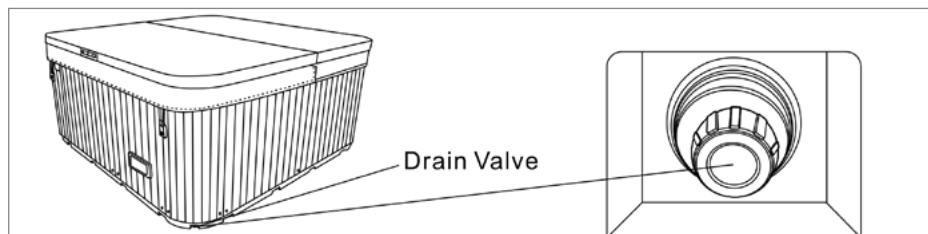
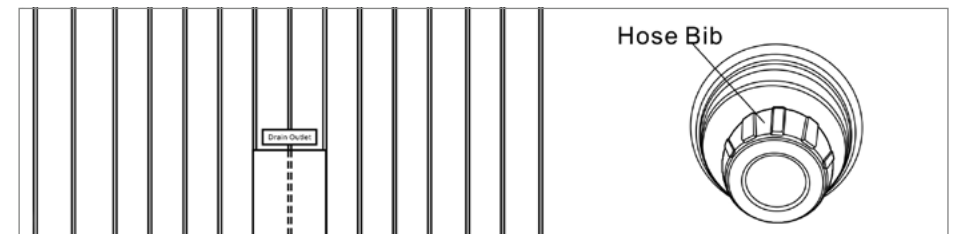

Figure 6
Figure 7
- 3) Locate the drain valve (hose bib) of the spa (the drain valve is located behind the cabinet panel, see Figure 6 and Figure 7).